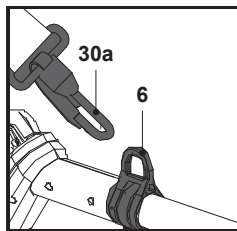

Fig. 21
2. Adjust the length of the harness (30) so that the securing clip (30a) is approximately 15 cm below your waist.
3. Attach the securing clip (30a) to the loop (6) (Fig. 21).